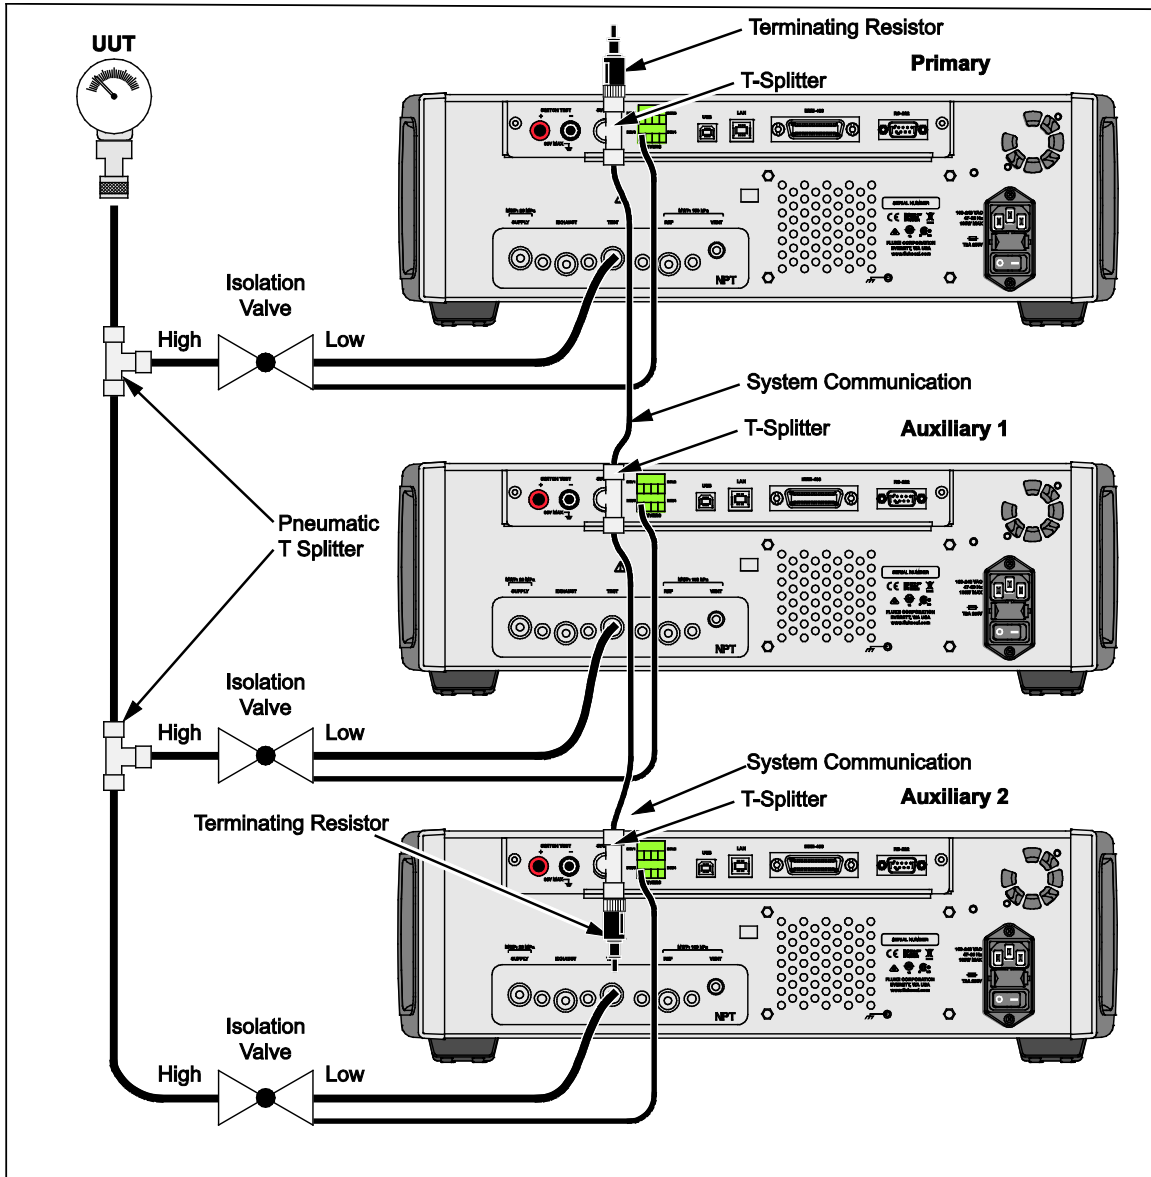

Figure 19. System Stacking Connections
- Electrical Connection Kit (part number 4579115) contains the necessary electrical system connections and wires shown in Figure 19.
- 20 MPa (3000 psi) Test Port Isolation Valve (part number 4581266) contains a single isolation valve and electrical connection. Does not include fittings or hoses. See Figure 19.
- b. Connect the pressure line to the port labeled “HIGH” to the UUT. Use splitters where necessary to connect to the UUT. See Figure 19.